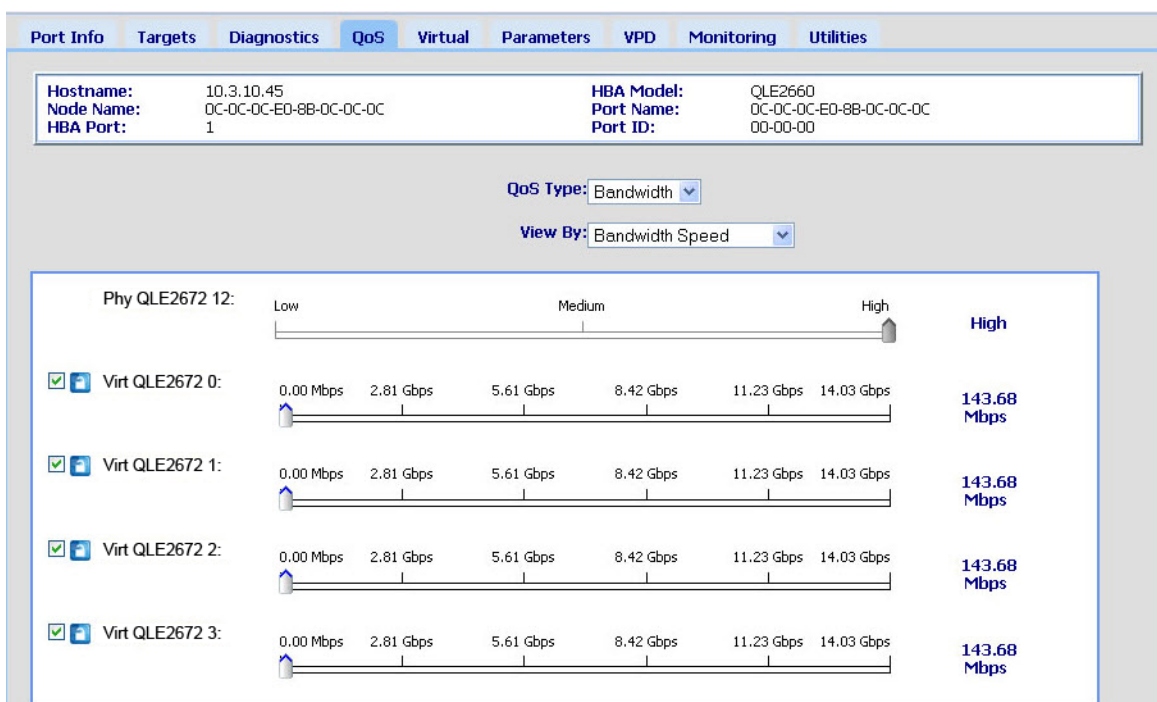

Figure 3-9. Setting the QoS by Bandwidth Speed
6. Move the slider to select the bandwidth speed, as shown in Figure 3-9.